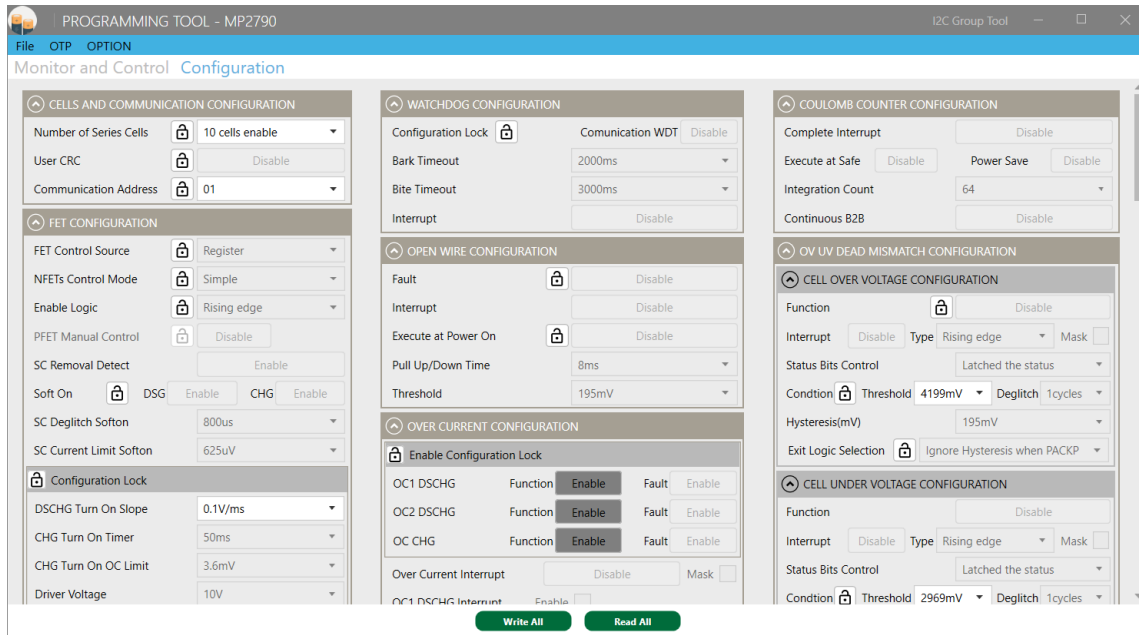

Figure 16: NVM View
4. In NVM view, all parameters that are not relevant to MTP cannot be modified. Any other parameters can be modified as necessary (see Figure 16).